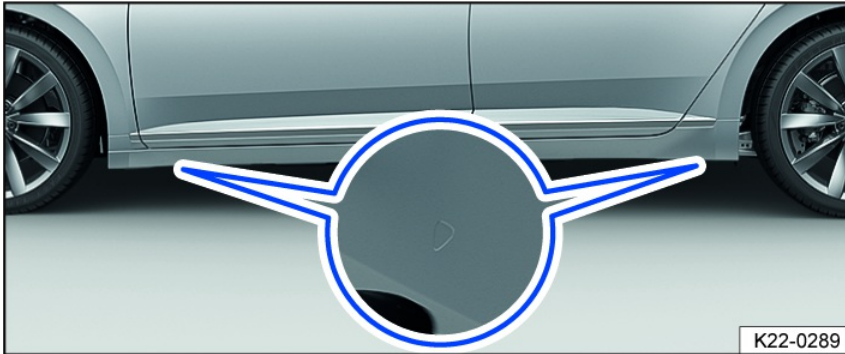

Fig. 191 Open lift points for the vehicle jack.
The vehicle jack must only be positioned at the reinforced areas on the underbody that are located behind the markings on the vehicle body *fig. 191*. The lift point that is nearest the affected tire should be used ⇒ ⚠️.
10. Find the vehicle lift point *fig. 191* under the vehicle that is closest to the wheel you will be changing.